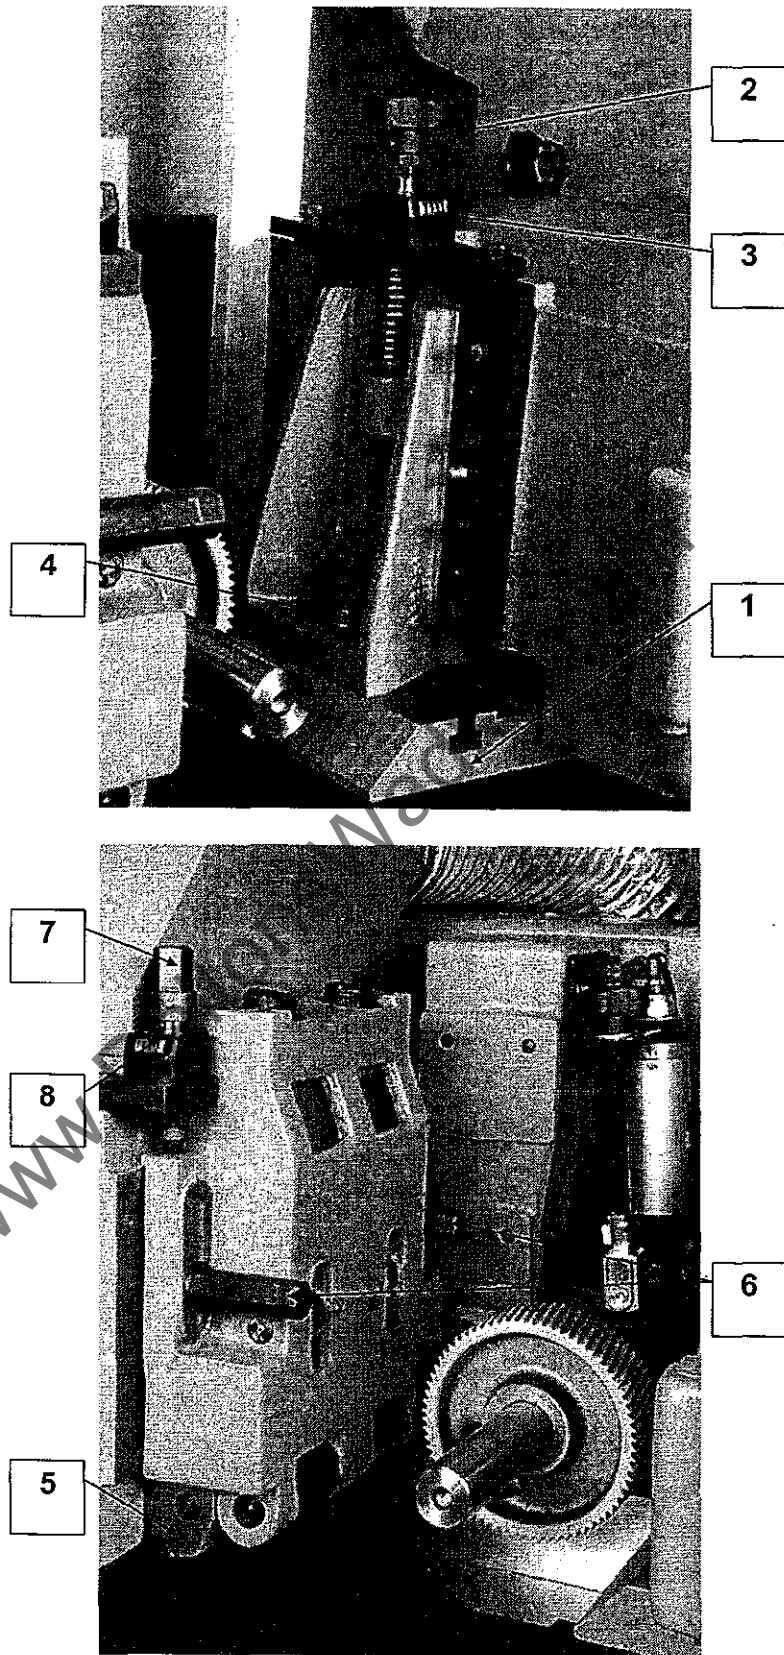

Figure 5.6
- 9 Release pneumatic clamp (6).
- 10 Using the crank handle, adjust shaft (7) until the spindle flange is the required distance behind the fence line. The final movement of the spindle should be **towards** the workpiece.
- 11 Lock pneumatic clamp (6).
5.6 First Top Head Pad Pressure and Chipbreaker (Figure 5.6)